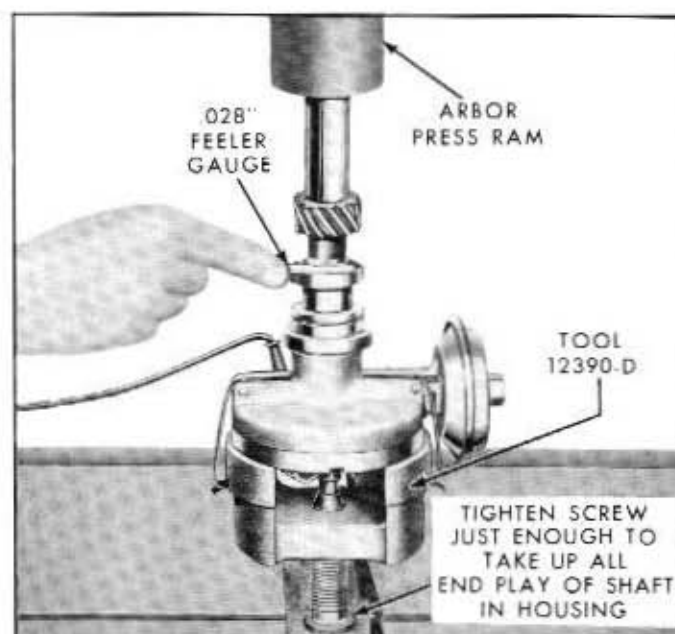

Fig. 9-69—Gear Installation—(60C-7726)
12. Press the gear on the shaft (figure 9-69) until an end clearance of .028 inch is obtained between the gear collar and the distributor body. If a new shaft is being installed, drill the shaft with a $\frac{1}{8}$ -inch drill, using the pin hole in the gear shoulder as a guide.